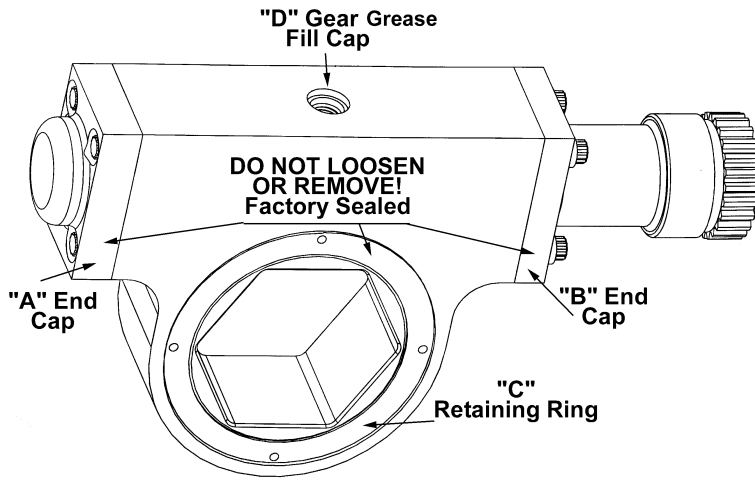

Figure 1
1. Each SpinTORQ hex cartridge (Fig 1) is a sealed unit. The precision gearing is installed and adjusted at the factory.